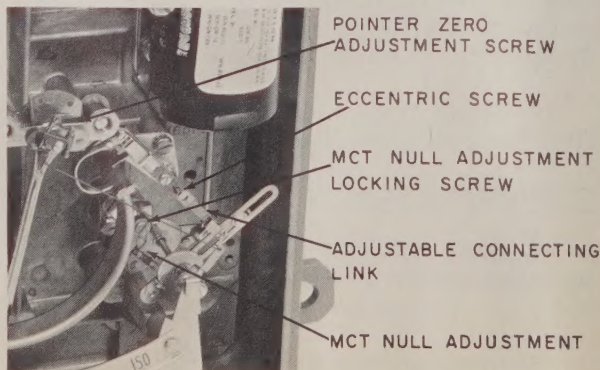

FIGURE 7 - Pre-Service Adjustments
4. If Receiver pen does not read minimum chart, loosen Transmitter MCT null adjustment locking screw (Figure 7) and turn MCT null adjustment to obtain correct reading. Retighten locking screw.
5. If Transmitter indicating pointer does not read minimum scale ($\pm 1/32$ -inch) turn pointer zero adjustment screw (Figure 7) clockwise to decrease reading or counterclockwise to increase reading.
6. Apply midrange and maximum measured range pressure to Bourdon tube. Observe (1) Receiver Chart readings and (2) Transmitter indicating pointer readings. If readings are correct, disconnect Transmitter from calibration set up and place in service as outlined under "Operation". If readings are incorrect, refer to "Calibration of Transmitter", page 12.